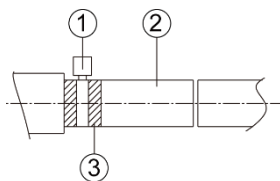

Fig 4.3.2
- (1) Insert the drain hose into the drain hole and tighten it with tapes, as shown in Fig 4.3.2.
- (2) Tighten the pipe clamp, with the distance between screw nut and hose smaller than 4mm(1/8in.).
- ① metal clamp(accessory)
- ② drain hose(accessory)